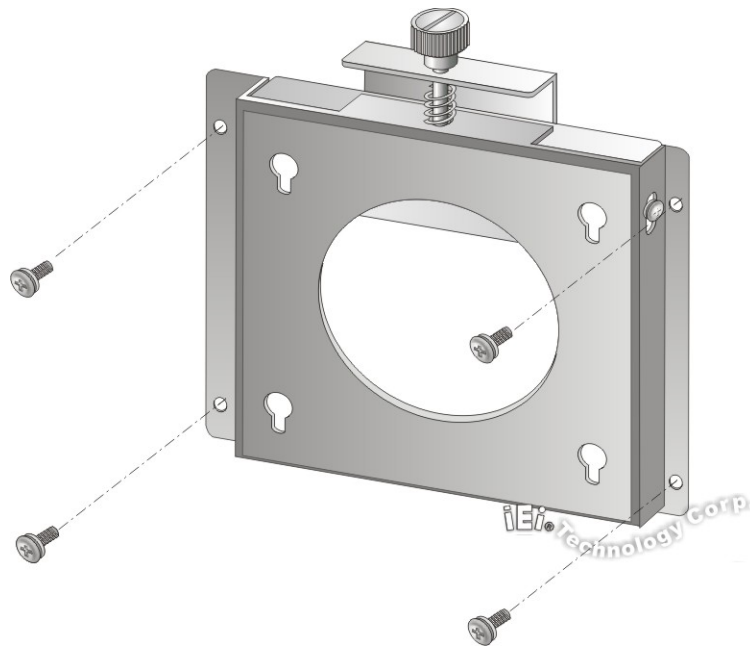

Figure 4-5: Wall-mounting Bracket
- Step 5:** Secure the mounting-bracket to the wall by inserting the retention screws into the four pilot holes and tightening them (**Figure 4-5**).